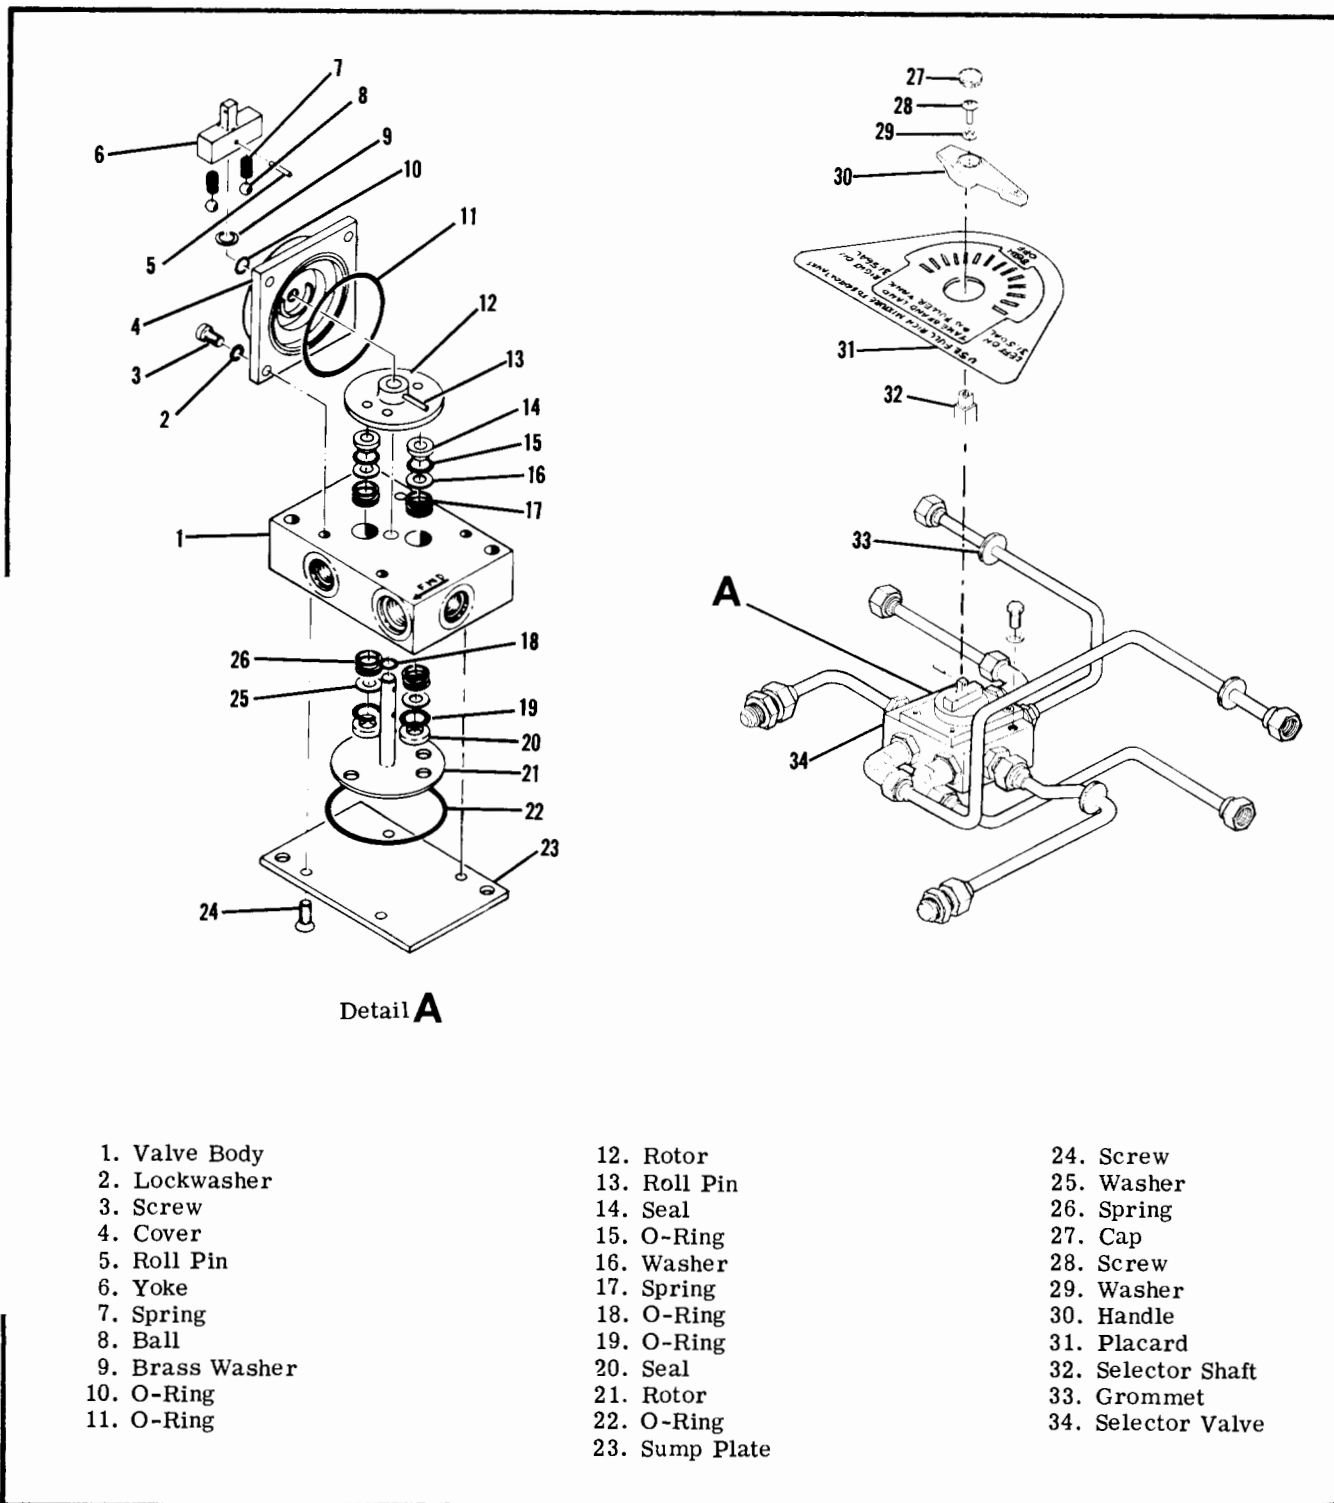

Figure 13-6. Fuel Selector Valve Assembly
13-25. FUEL SELECTOR VALVE REPAIR. (See figure 13-6.) The fuel selector valve may be repaired by disassembly, replacement of defective parts, and reassembly as follows:
Install all parts in the relative position depicted in figure 13-6, otherwise the valve will not operate correctly.
- j. Install O-ring (18) in body shaft hole. Install O-rings (19) and teflon seals (20), then slide shaft and rotor into place. Position rotor in exact relative position shown in figure 13-6, then install O-ring (22) and sump plate (23).
- k. Install .169" diameter pins in body ports, then slide springs (17), washers (16), O-rings (15) and teflon seals over pins. Slide rotor (12) over shaft. Remove .169" dia. pins and, readjusting rotor vs. shaft position as necessary, tap roll pin (13) into place, letting it protrude on the side depicted.